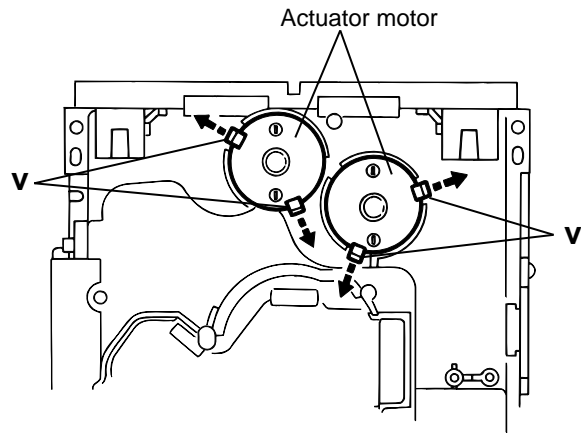

Fig.20
5. After turning over the chassis assembly, remove the actuator motor while spreading the four pawls **v** fixing the right and left actuator motors in the arrow direction(See Fig. 20).